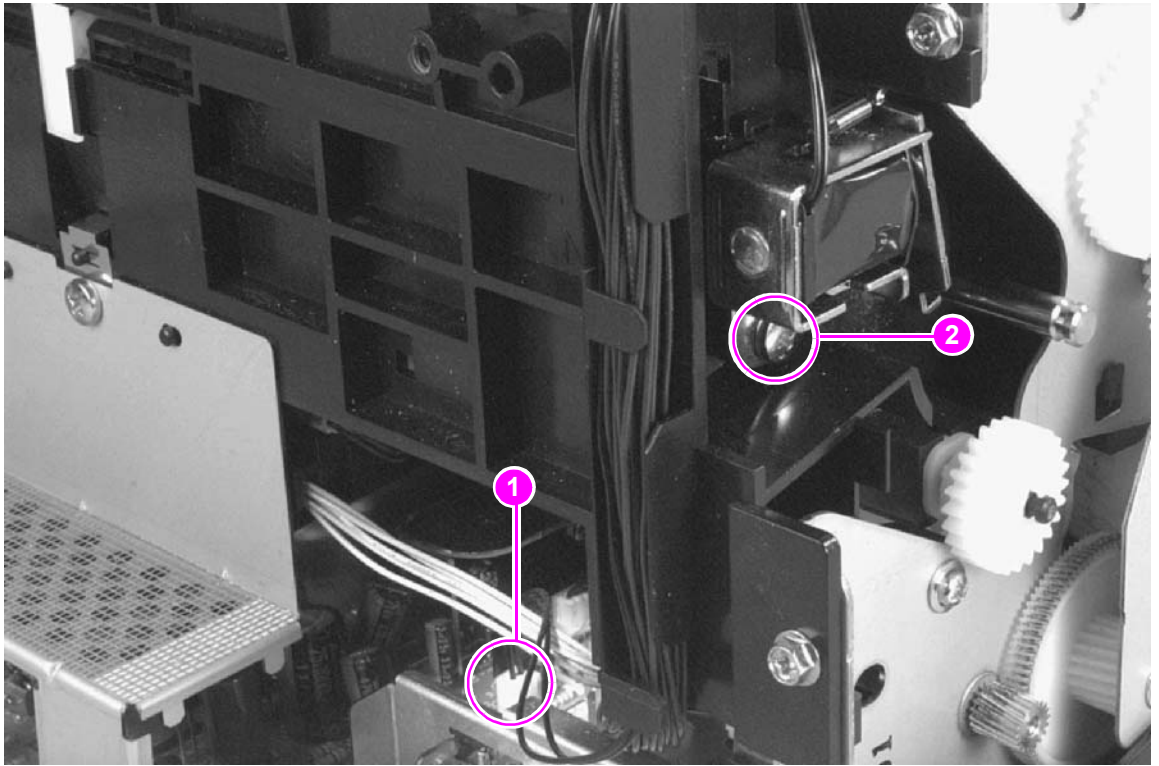

Figure 6-22 Solenoid removal (2 of 2)
- 3 Remove the Solenoid connector (J204) from the DC Controller (Figure 6-22, callout 1).
- 4 Remove the self-tapping screw that holds the Solenoid in place (Figure 6-22, callout 2).
- Solenoid from the DC Controller at J204 (Figure 6-22, callout 1)